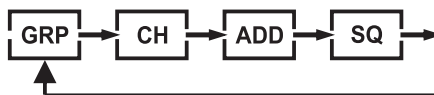

Fig. 10
Use Rotary Knob ⑧ to set functions through the VFD Screen. 4 functions can be programmed. Fig. 10